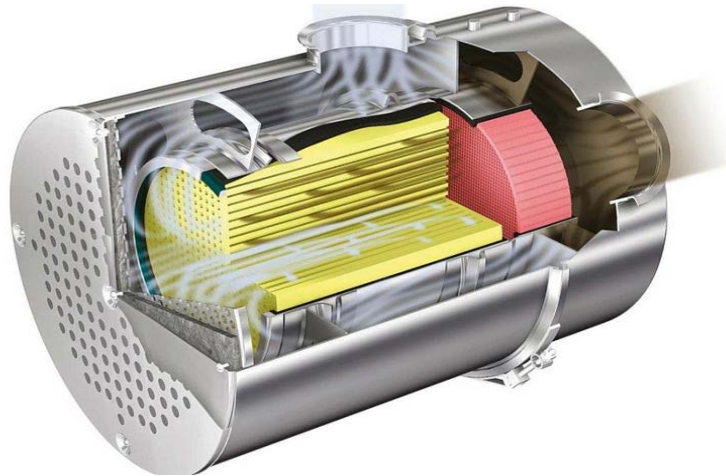

Figure 3 Schematic of a DPF¹¹
22. While DOCs convert PM that is gaseous at high temperatures to harmless CO₂ and H₂O, most PM produced by diesel engines is not soluble or gaseous. For this reason, diesel vehicle manufacturers developed diesel particulate filters (DPFs) to physically capture diesel particulates and prevent their release to the atmosphere. FCA started using DPFs in their diesel pickup trucks in the 2007 MY, while GM and Ford followed suit in the 2008 MY. DPFs capture PM by physical contact in a substrate made of a ceramic material that is shaped into a honeycomb structure contained in a metal can as shown in **Figure 3** below.